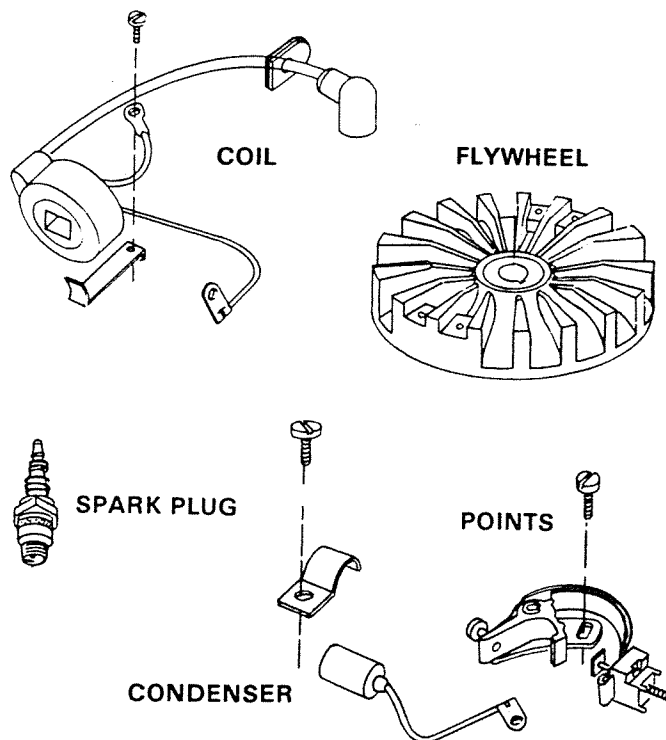

Figure 1. Ignition System Components.
The magneto ignition system has five (5) major components: Flywheel, Coil, Spark Plug, Condenser and Breaker Points. Figure 1.